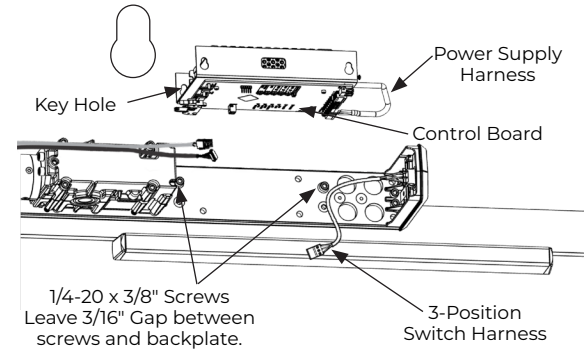

Figure 10
1. Insert two (2) 1/4-20 x 3/8" screws as shown, leaving an approximate 3/16" gap between head of the screws and backplate. (Figure 10)
2. Slide the power supply key holes over screws allowing narrow slots of key holes to rest on screws. (Figure 10)